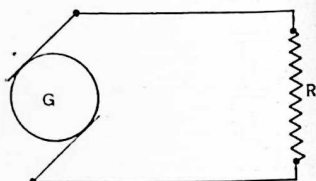

FIG. 14.
**Problem 30.** The generator  $G$  in Fig. 14 has a voltage of 220 volts. What current can it force through  $R$  which is 12.3 ohms?